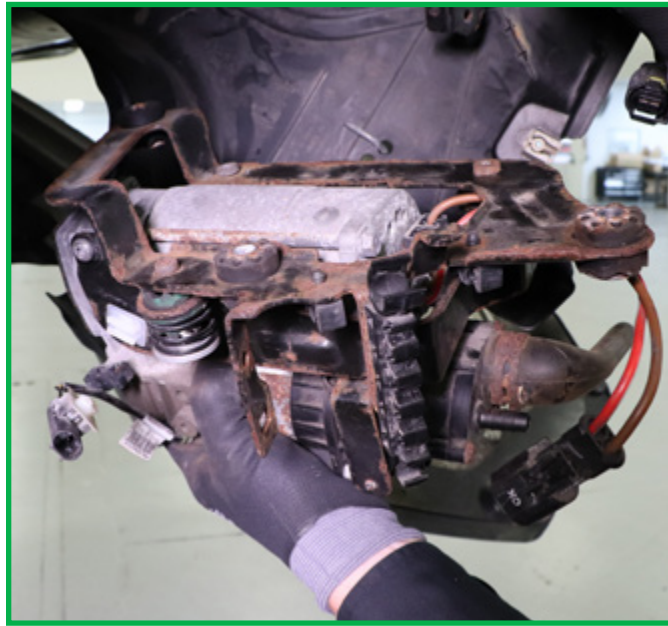

FIGURE 17
10. Remove the entire compressor assembly from the vehicle. (Figure 17)